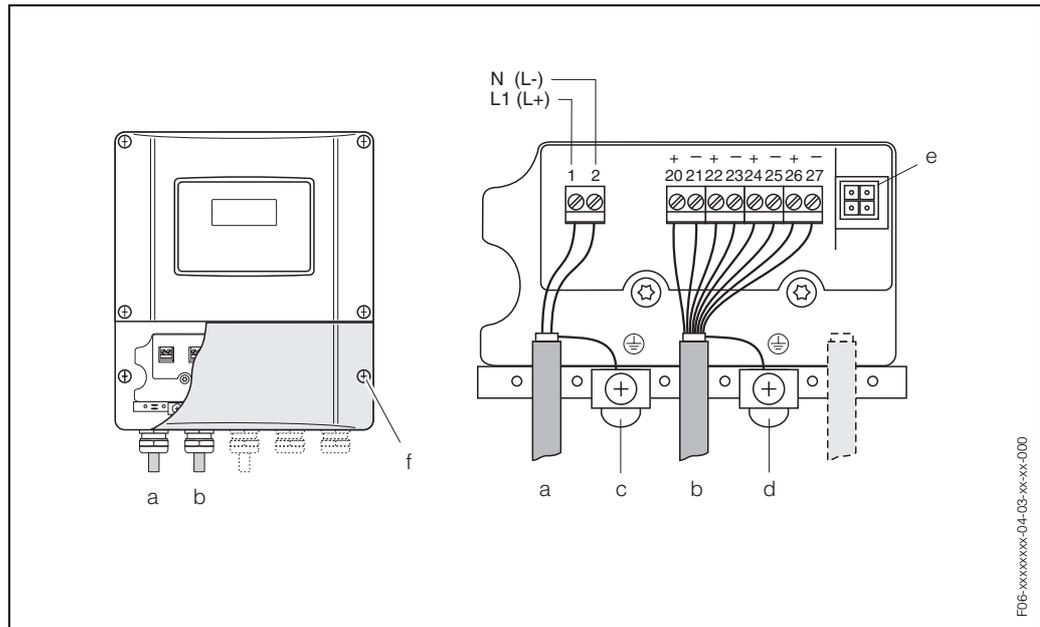

Fig. 29: Connecting the transmitter (wall-mount housing). Cable cross-section: max. 2.5 mm2
- Wiring diagram (wall-mount housing) → Fig. 29